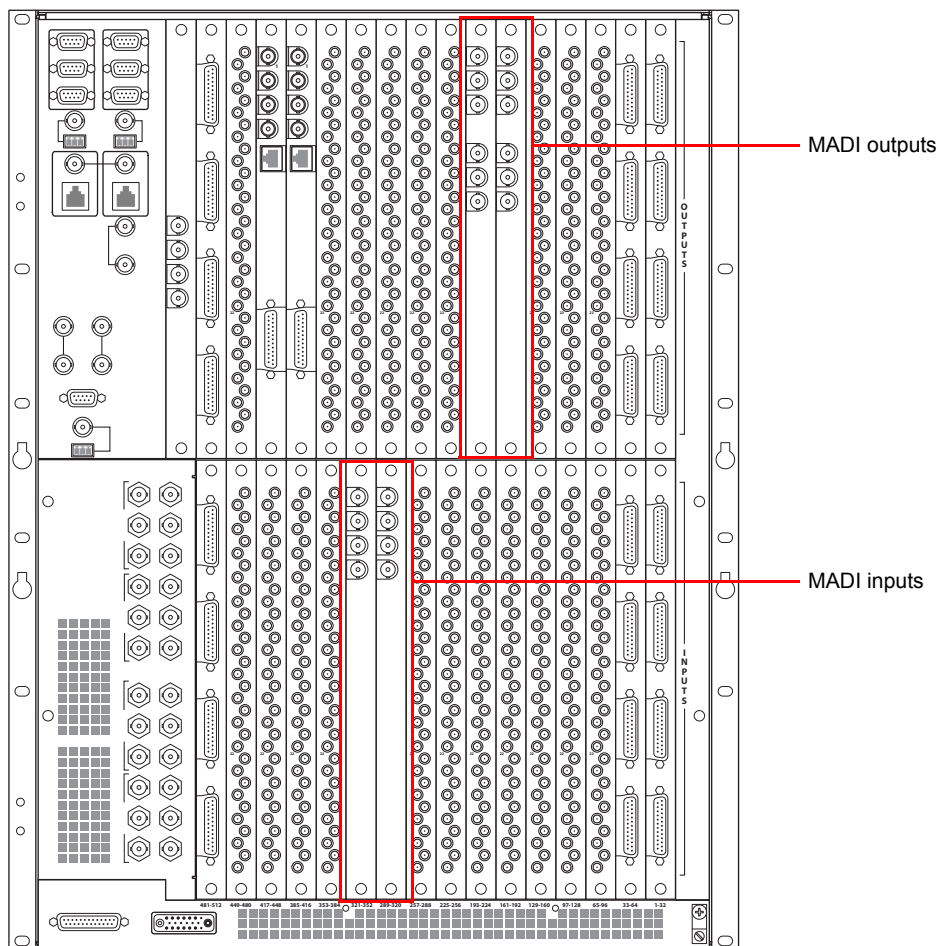

Figure 2-29. MADI Reference Connection (Rear View)
- 1 Locate the MADI reference connections on the *MADI inputs* backplane on the rear of the router, as shown in Figure 2-29). Reference connections are located on backplane housing the MADI signal connections. Inputs are located in the lower half of the router frame. The exact location of the backplane may differ depending on your configuration.
- 2 Locate the MADI reference connections on the *MADI outputs* backplane on the rear of the router, as shown in Figure 2-29 on page 68), labeled 'REF 1 OUT' and 'REF 2 OUT'. Reference connections are located on backplane housing the MADI signal connections. Outputs are located in the lower half of the router frame.